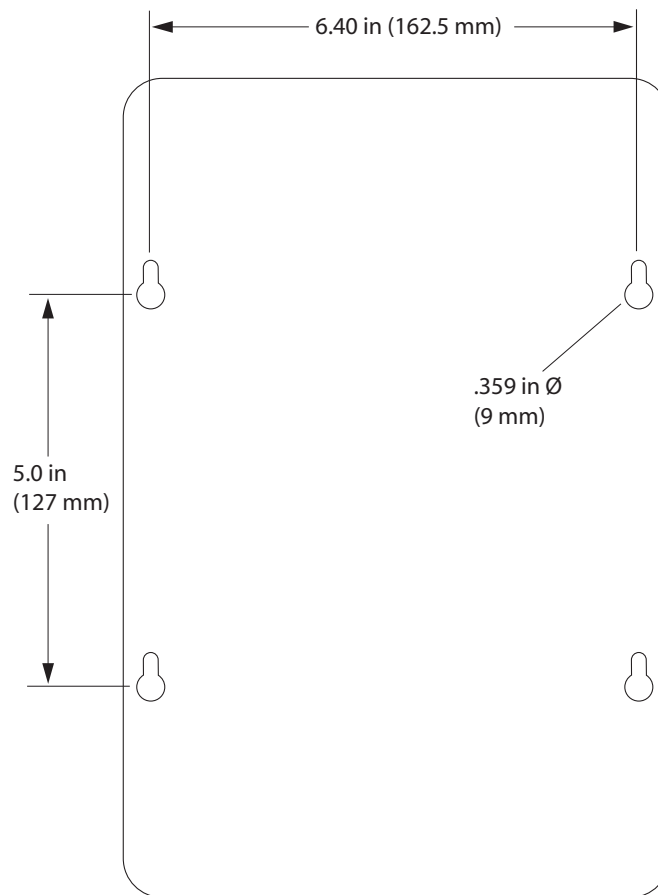

Figure 3—MP9320 Base Plate with Mounting Keyholes
SAMSys recommends that the MP9320 be mounted on a horizontal surface. However, if vertical surface installation is required, refer to the following sections for the appropriate mounting. As shown in Figure 3, keyhole slots are provided for easy installation and removal.
1. Refer to Figure 3, and mark the location of the mounting screws. Do not install the anchors into the mortar joint.
1. Refer to Figure 3, and mark the location of the mounting screws.